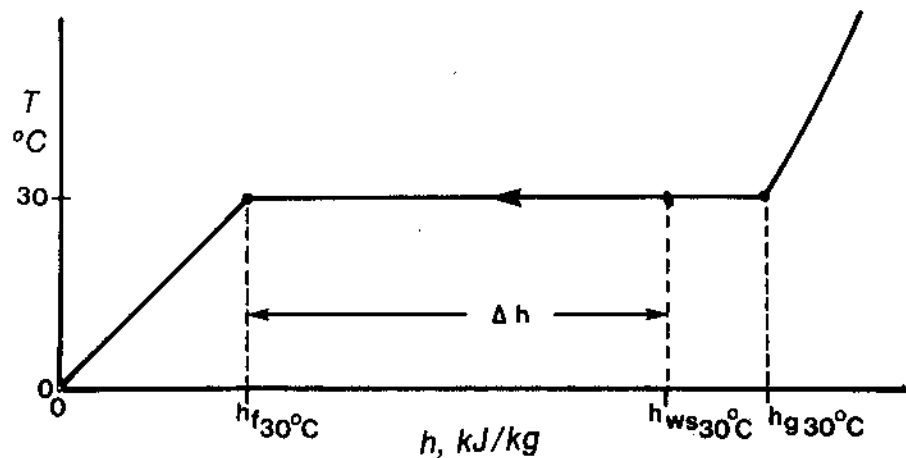

Figure 3.5
3.2) In this question, the steam side of the condenser can be shown as on Figure 3.5: